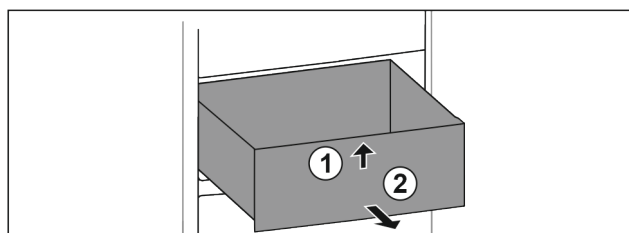

Fig. 15
- ▶ Lift up drawer at the front. Fig. 15 (1)
- ▶ Remove drawer to the front. Fig. 15 (2)